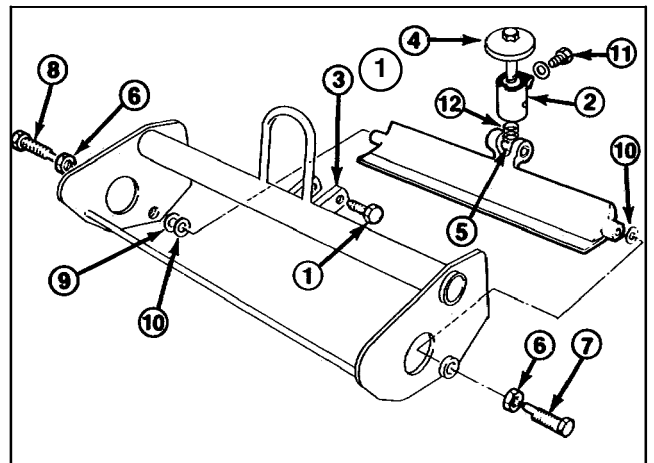

Figure 12
1. Remove spring arm retaining capscrew and washer from pivot assembly. Loosen pivot screws securing bedknife pivot assembly to reel frame supports (Fig. 12).
2. Rotate adjustment knob and pivot assembly clockwise (left hand thread) until it is unthreaded from bedbar pivot (Fig. 12).
3. Loosen jam nuts retaining right and left bed-bar pivot bolts. Remove pivot bolts (Fig. 12).
8. Mount right side of bedbar to sideplate with shoulder bolt, jam nut, steel washer, and plastic washer. Position washers between bedbar and side-plate with plastic washer closest to bedbar. Adjust shoulder bolt (right hand) until left end of bedbar assembly firmly seats against left side plate, clamping the plastic washer tightly - thus all end-play is removed from bedbar. Bedbar must pivot without binding, with bedknife adjusting knob and pivot assembly not installed. Tighten jam nut while holding shoulder bolt (Fig. 12).
9. Thread adjustment knob and pivot assembly into flat side of bedbar pivot until mounting holes in pivot assembly are aligned with holes in reel frame supports and bedknife does not interfere with reel (Fig. 12).